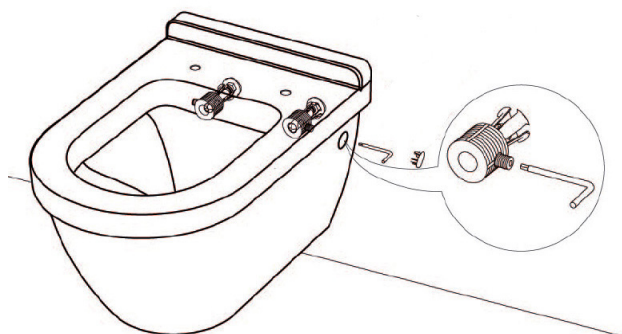

Fig 3
3. Ensure pan is level before fully tightening. Grub screw with allen key supplied (fig 3).